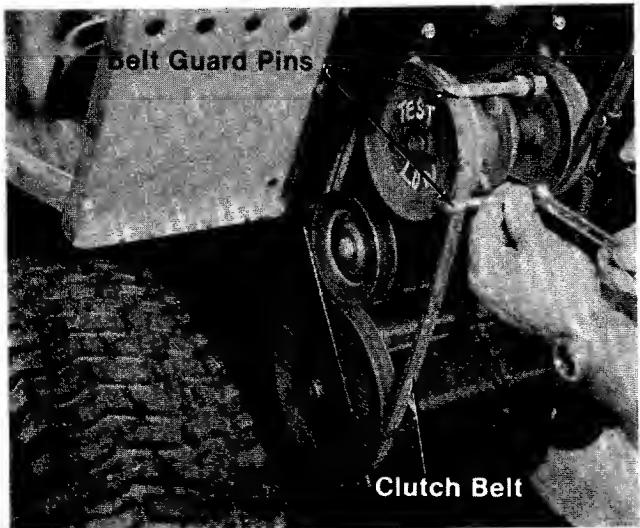

FIGURE 18.
- Remove the two belt guard pins on the pulley assembly. See figure 18.